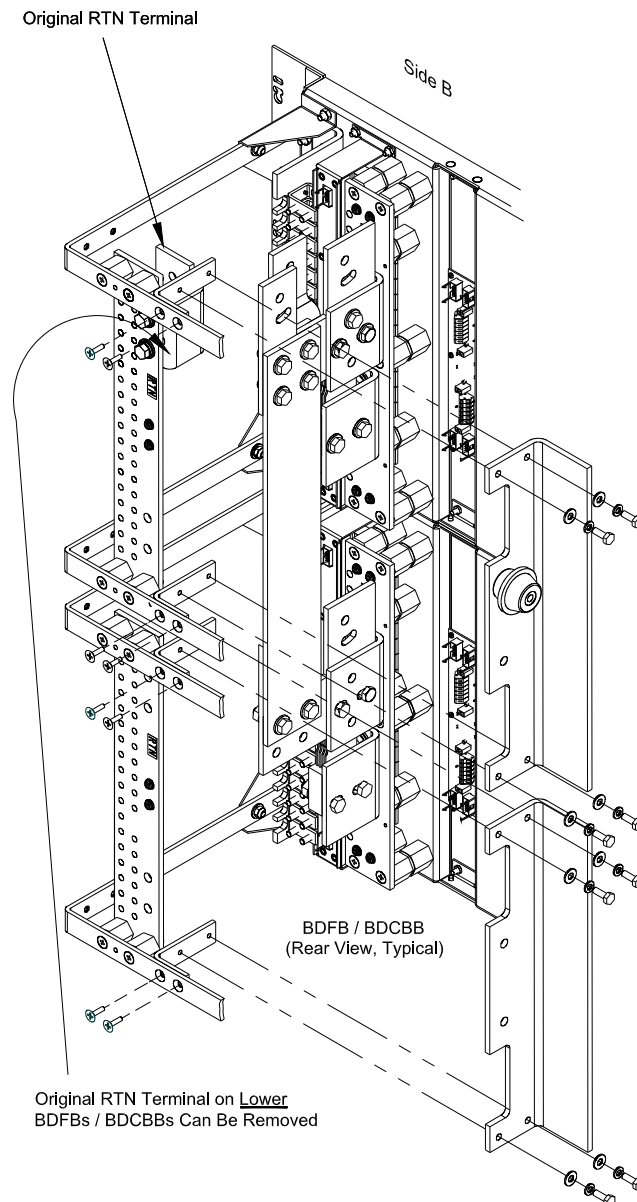

Figure 3 - Installing the Insulator Assembly
6. Use the $\frac{1}{4}$ " - 20 hardware to secure the insulators to the BDFB / BDCBB as shown in Figure 3.